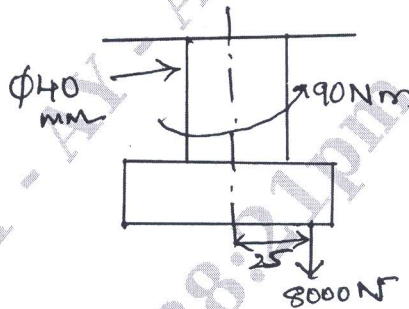

Fig.Q1(b)
- b. A 40mm diameter steel rod supports 8.0kN load and in addition is subjected to a torsional load of 90Nm as shown in Fig.Q1(b). Determine the maximum tensile and maximum shear stress.